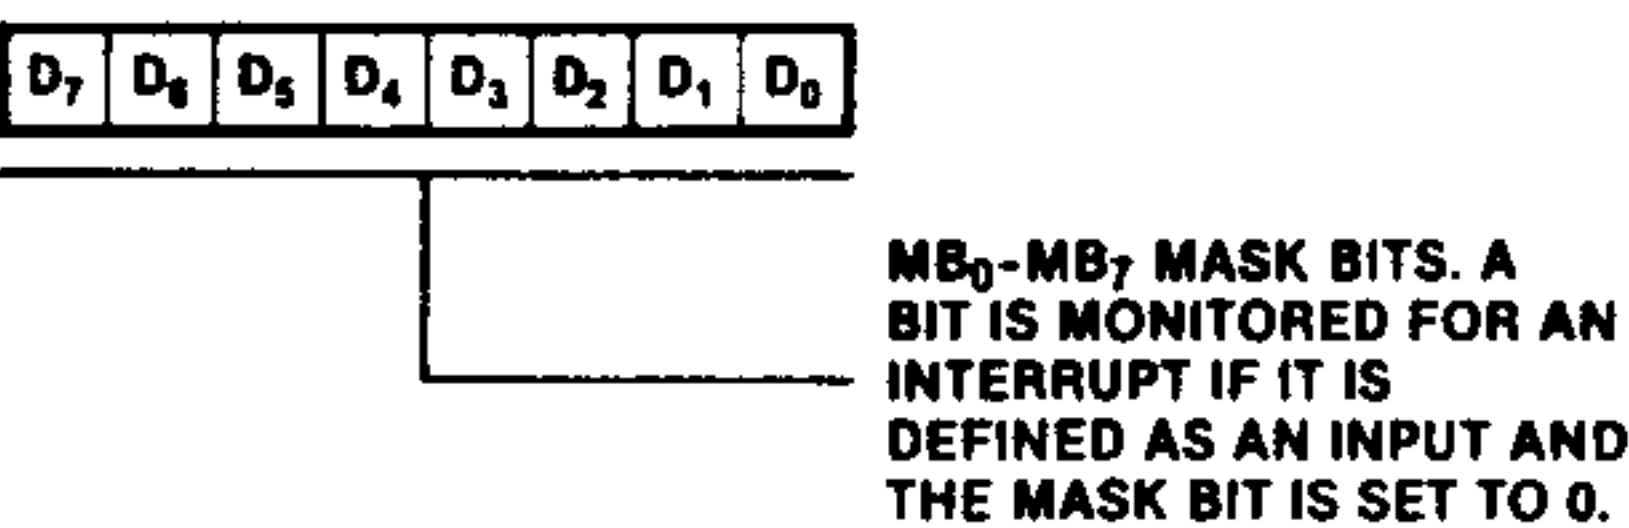

Figure 10. Mask Control Word
**Mask Control Word.** This word sets the mask control register, allowing any unused bits to be masked off. If any bits are to be masked, then D4 must be set. When D4 is set, the next word written to the port must be a mask control word (Figure 10).